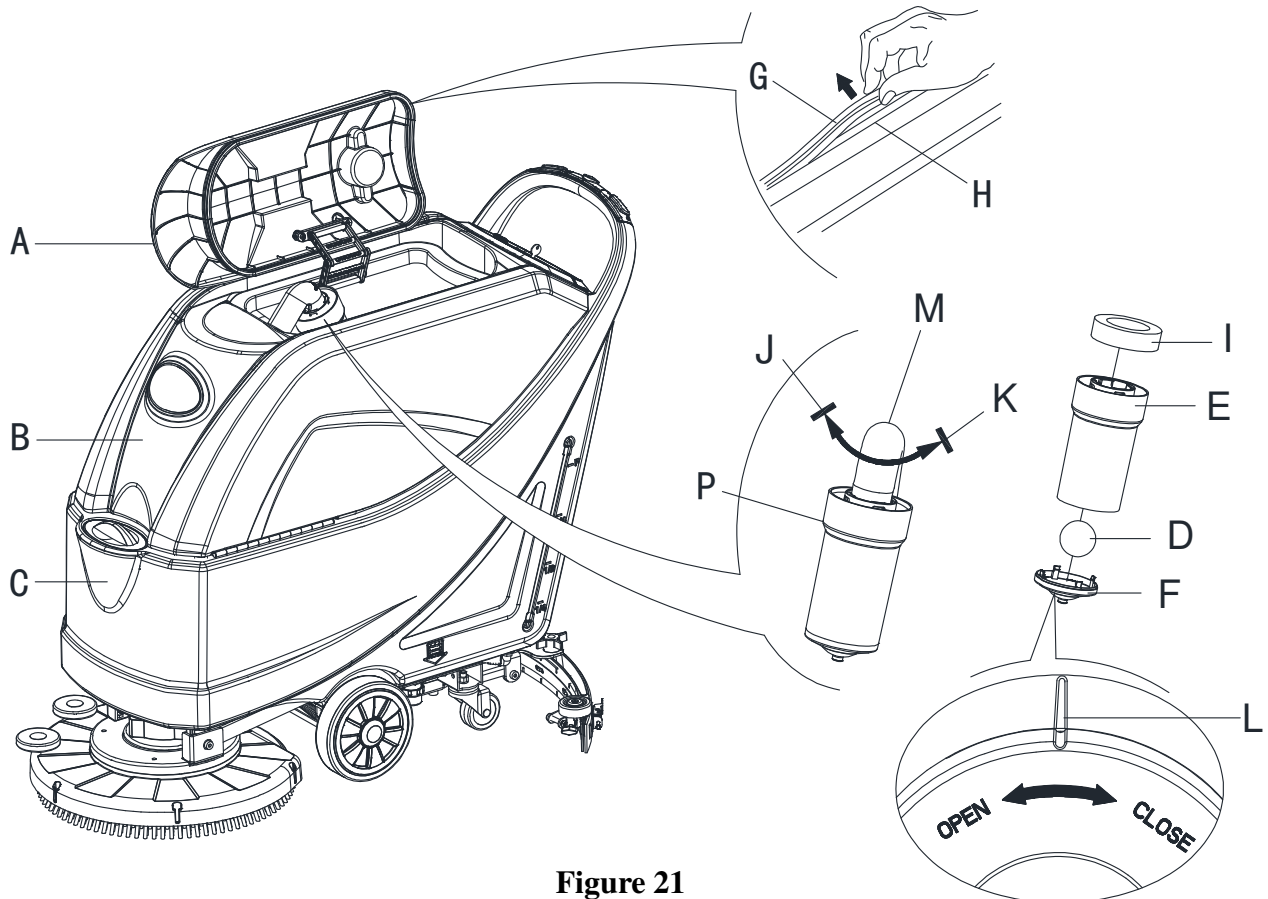

Figure 21
2. Ensure that the machine is off and the ignition key (54) has been removed.
3. Turn the recovery tank lid (A, Figure 21) 90 degree position where it can be taken off from the tank, and then take down the float ball filter (P) from the tank.
5. If necessary, follow the symbols "OPEN" and "CLOSE" as shown in (Figure 21) to open the bottom cover (F) of float ball filter and then clean the float ball (D), filter support frame (E) and filter sponge (I). After cleaning, fix the float ball (D) into the filter support frame (E) and then align the mark groove (L) of the bottom cap (F) of the float ball filter with the mark groove (L) of the float filter support frame (E). Screw the bottom cap of the float ball filter tight, and fix the filter sponge (I) onto the float filter support frame (E). Finally, connect it to the sewage suction hose (M).
7. Check whether the contact surface of sealing strip (G) is integrity and sealing is sufficient. If necessary, take the sealing strip of the tank out of the groove (H) and replace it. Assembly the new sealing strip as shown in (Figure 21), the joint should be back in the middle area.
8. Close the recovery tank lid (A).